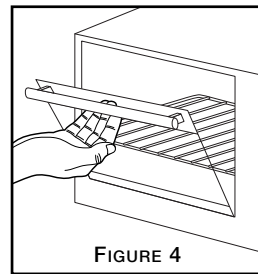

FIGURE 4
Step 2: Pull down the countertop oven door carefully (See Figure 4).